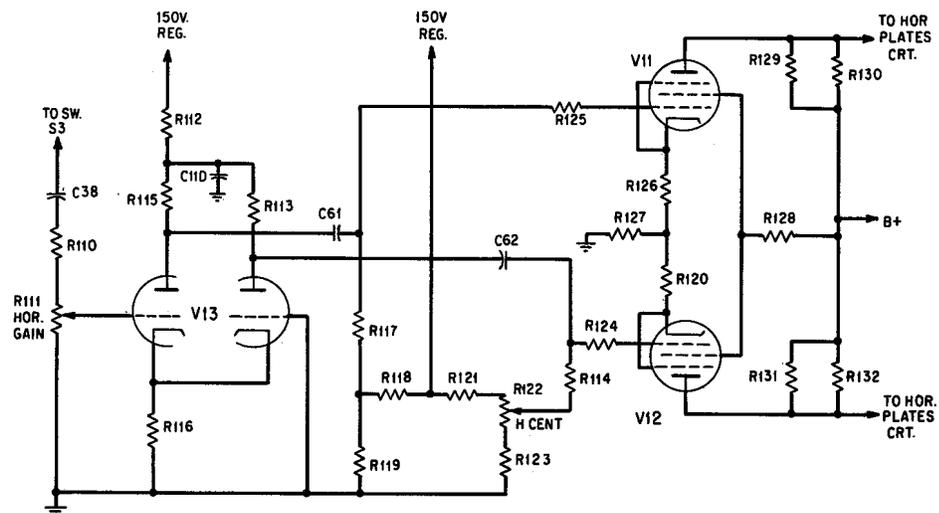

Fig. 12 – Horizontal Amplifier Circuit
**4.20** The width of the horizontal sweep can be varied by the H GAIN adjustment, R111, as shown in Fig. 12, which controls the amplitude of the sweep to the phase inverter, V13. The